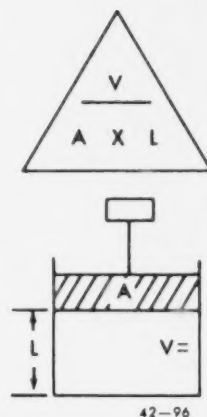

Figure 1-5. Relationship of volume, area, and length.
Relationship of Volume, Area, and Length. Figure 1-5 shows the mathematical relationship between volume, area, and length of stroke. Once again a triangle is used to solve problems involving these three factors. For example, a piston of 8 square inches moves a distance of 10 inches within a cylinder. What is the volume of liquid displaced by the movement of the piston? Using the triangle in figure 1-5, we can easily calculate the volume. We cover V and multiply the two lower figures A and L . Eight square inches times 10 inches equals 80 cubic inches (V) which is the volume displaced (V).